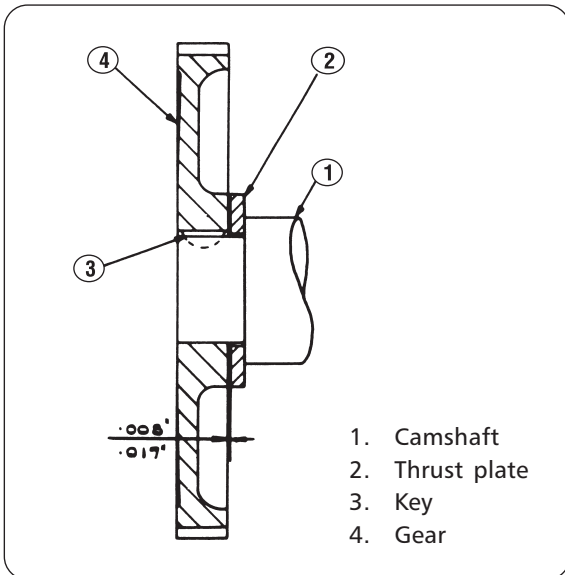

Fig. 5
- b) Fit a new key to the camshaft then press on the camshaft gear to leave a clearance of 0.008"-0.017" between the gear hub rear face and the thrust plate. Ensure that the thrust plate is located against its abutment shoulder when checking this clearance (Fig.5)